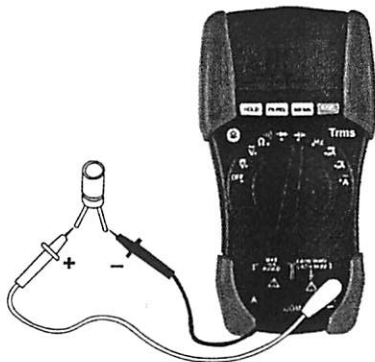

Fig. 8: Operation for Capacitance measurement
2. Insert test leads into the jacks, plug red into \rightarrow HzV Ω μ A jack and plug black into COM jack (see Fig. 8).